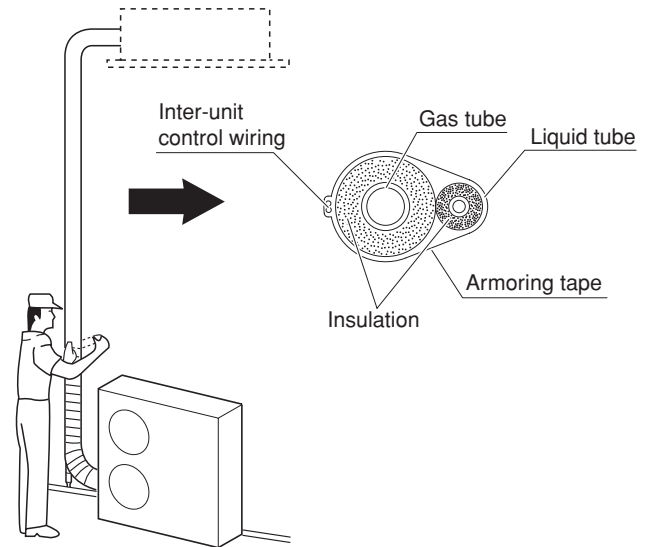

Fig. 7-12
- (1) At this time, the refrigerant tubes (and electrical wiring if local codes permit) should be taped together with armoring tape in 1 bundle. To prevent condensation from overflowing the drain pan, keep the drain hose separate from the refrigerant tubing.
- (2) Wrap the armoring tape from the bottom of the outdoor unit to the top of the tubing where it enters the wall. As you wrap the tubing, overlap half of each previous tape turn.
- (3) Clamp the tubing bundle to the wall, using 1 clamp approx. each meter. (Fig. 7-12)